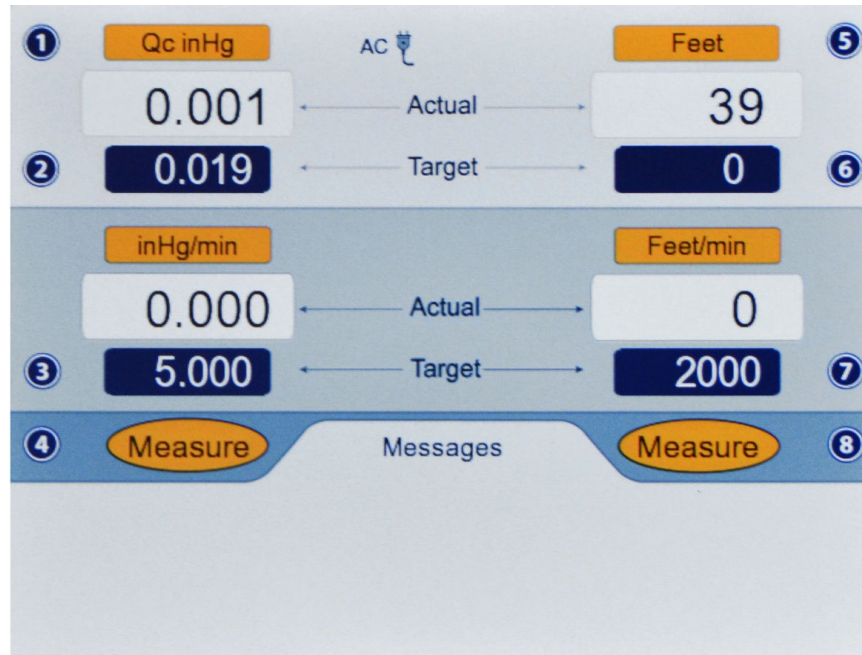

Figure 3.4 : Select QcinHg
For example, if units of QcinHg is to be selected, in the 'Pitot units (1)' screen, press **'6'**. The Lower section will blank out and the Upper section will appear as shown in Figure 3.4 below.